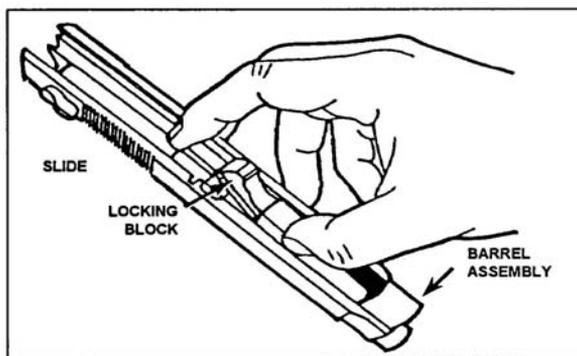

Figure 071-004-0001-5. Insertion of the barrel assembly
- (1) Check for damaged or corroded ammunition. Turn in heavily corroded or damaged ammunition.
- (2) Check to ensure that the ammunition is free of oil and grease.
6. Assemble the pistol (figure 071-004-0001-5).